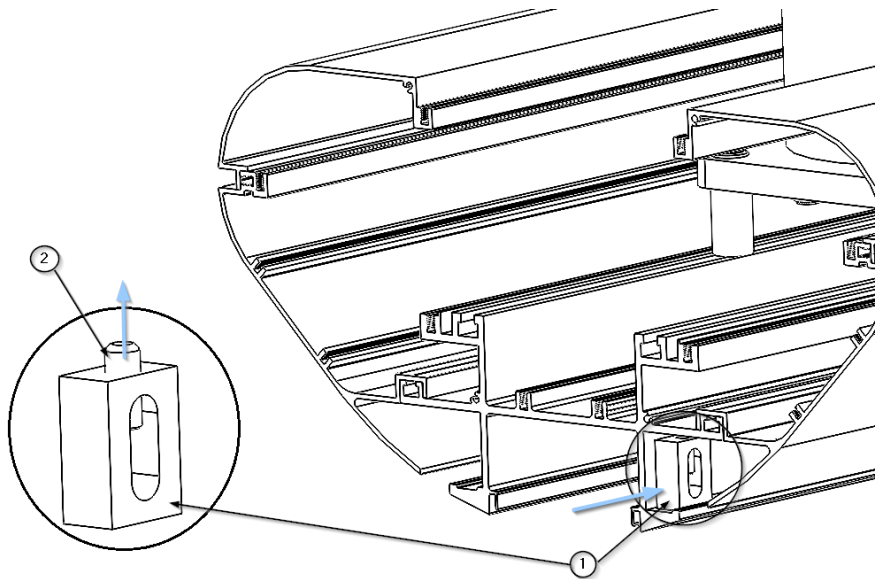

Fig.14 Adjusting the travel limit switches.
- Insert the carriage with the bearings ② into the guide in the centre of the main body ① as shown in figure 14.